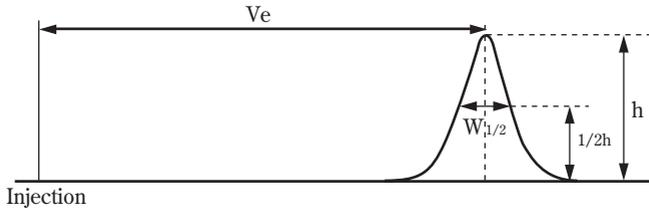

Fig. 3 Method of calculating the number of theoretical plates
The number of theoretical plates of a column (N) is calculated by the half peak width method shown in Fig.3 and the following equation.